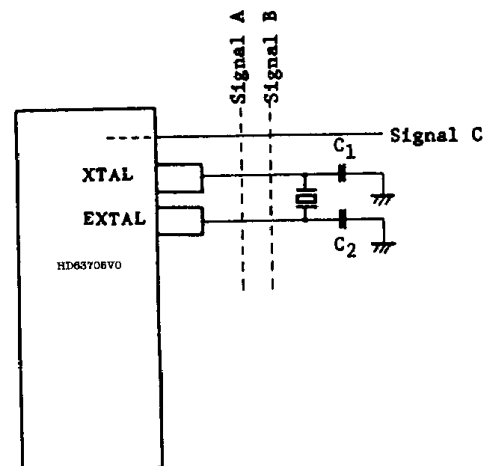

Figure 41 Example of Circuit Causing Trouble in Oscillation
- (1) Locate crystal, ceramic resonator, and load capacity C₁ and C₂ as near the LSI as possible. (Induction of noise from outside to the XTAL and EXTAL pins may cause trouble in oscillation.)
- (2) Wire the signal lines to the neighboring XTAL and EXTAL pins as far apart as possible.
- (3) Board design of situating signal lines or power supply lines near the oscillator circuit as shown as Figure 41, should not be used because of trouble in oscillation by induction. The resistor between the XTAL and EXTAL, and pins close to them should be 10MΩ or more.